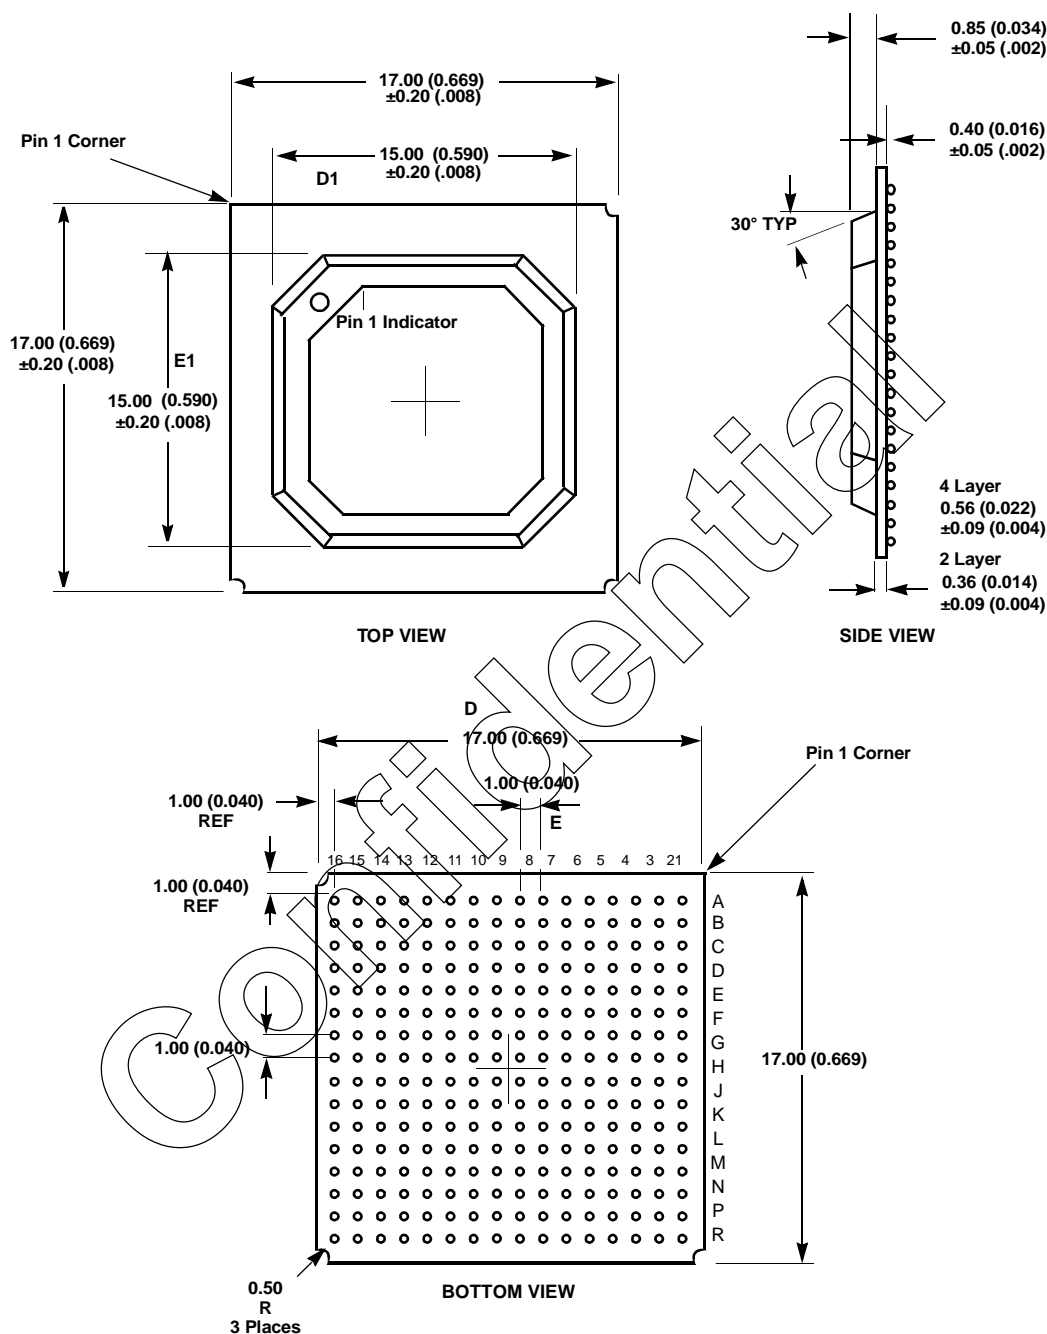

Figure 16. 256-Ball PBGA Package Drawing
**NOTE:** For package specifications, please see Figure 16 on page 32